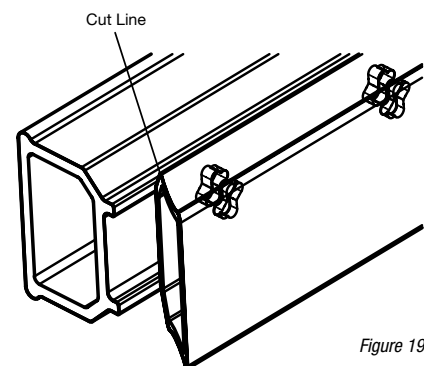

Figure 19
6. Place the top rail next to the bottom rail with the marked ends together. Using the bottom rail as a guide, center the routed holes in the top rail with the routed holes in the bottom rail. Mark the cut lines on the top rail (Figure 19).